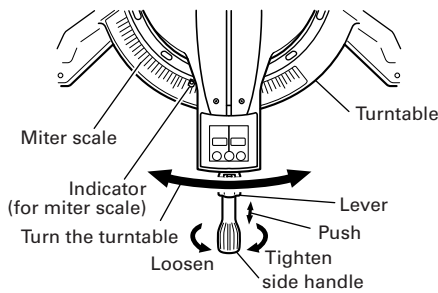

Fig. 27
- (1) Loosen the side handle and push the lever for angle stoppers. Then, adjust the turntable until the indicator aligns with desired setting on the miter scale (Fig. 27).
- (2) Re-tighten the side handle to secure the turntable in the desired position.